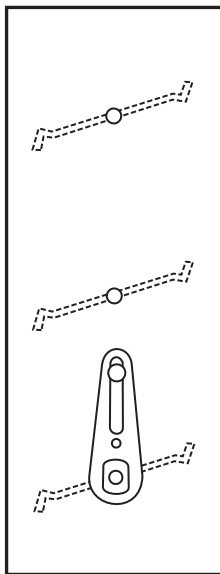

Fig. 6. Damper blade at mid-position.
1. Position the damper blade at mid-position. See Fig. 6.